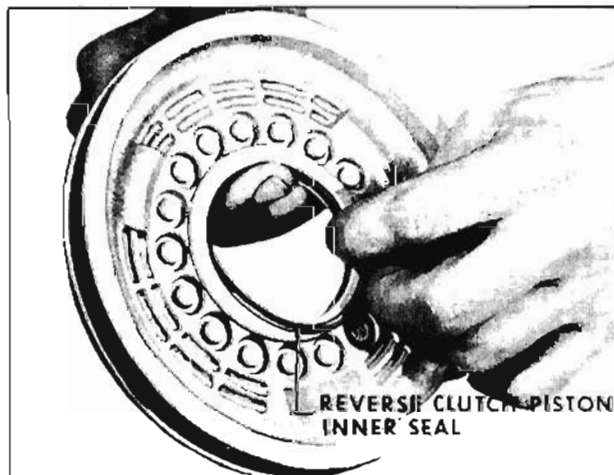

Fig. 6-409 Reverse Piston, Inner Seal
3. Examine reverse clutch piston inner seal. If nicked, torn or worn, remove seal. (Fig. 6-409)
4. Lubricate with transmission oil and install reverse clutch piston inner seal. (Fig. 6-409)